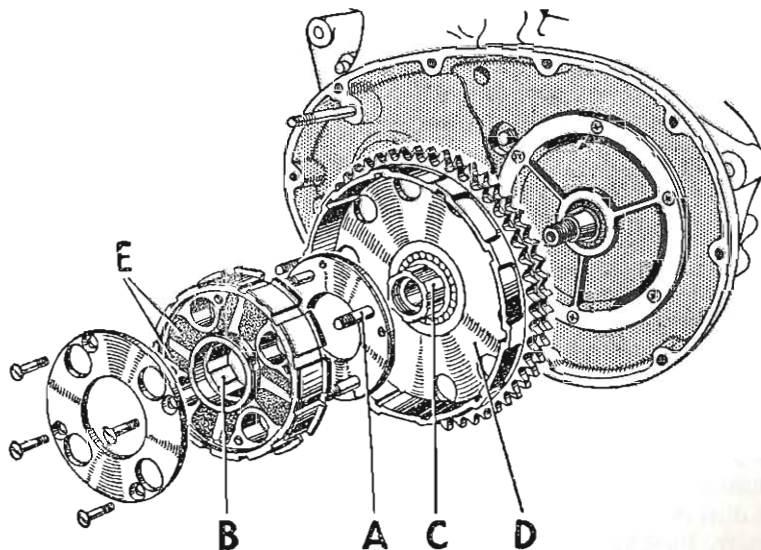

FIG. C8A. *Clutch drive unit.*
The clutch centre (B) Fig. C8A can be lifted out leaving the sleeve (C) and rollers in the chainwheel.
New rubber inserts (E) Fig. C8A should be fitted as shown with the thicker segment being inserted first on the pressure or driven side of the vane and compressed by slightly rotating the vane, when the thinner segments can be pressed into position. A special tool numbered 61-3689 is necessary for the B40F as the rubbers are much stronger and of equal thickness.
Smear the clutch sleeve (C) Fig. C8A with grease and replace the 25 rollers in position. Next slide the chainwheel over the rollers and the clutch centre (B) Fig. C8A over the splines of the clutch sleeve. Place the engine sprocket on the bench alongside with the boss upwards and thread the primary chain over both the sprocket and chainwheel pulling the chain taut.